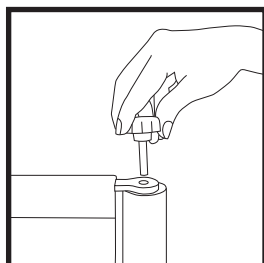

Fig. 6
7. Screw the bar with the banner to the other leg (with the knob) (Fig. 6).